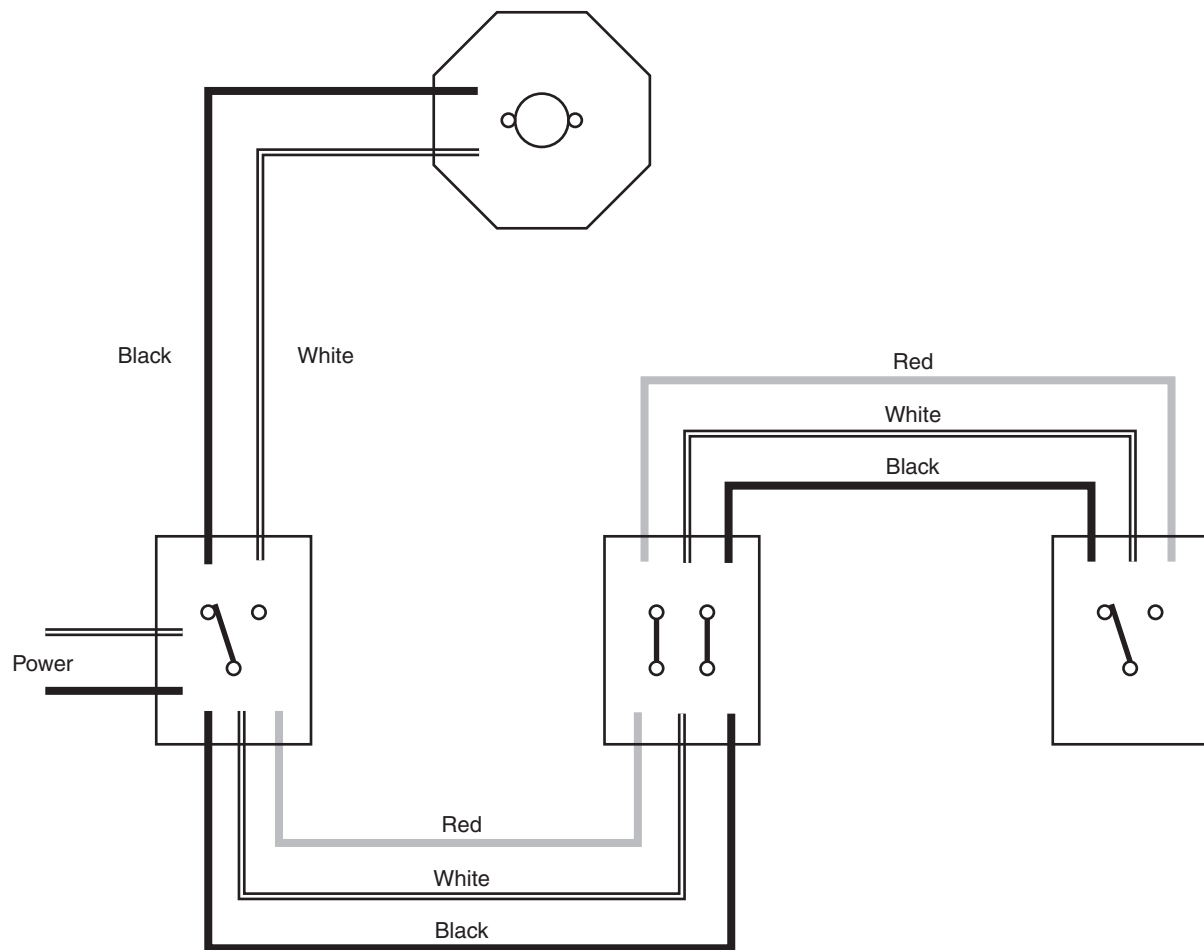

Figure 9-20 Connect the circuit.
6. Refer to Figure 9-20. Connect the wires for proper switch operation. Connect the circuit so that a black conductor will supply the common terminal on each 3-way switch.